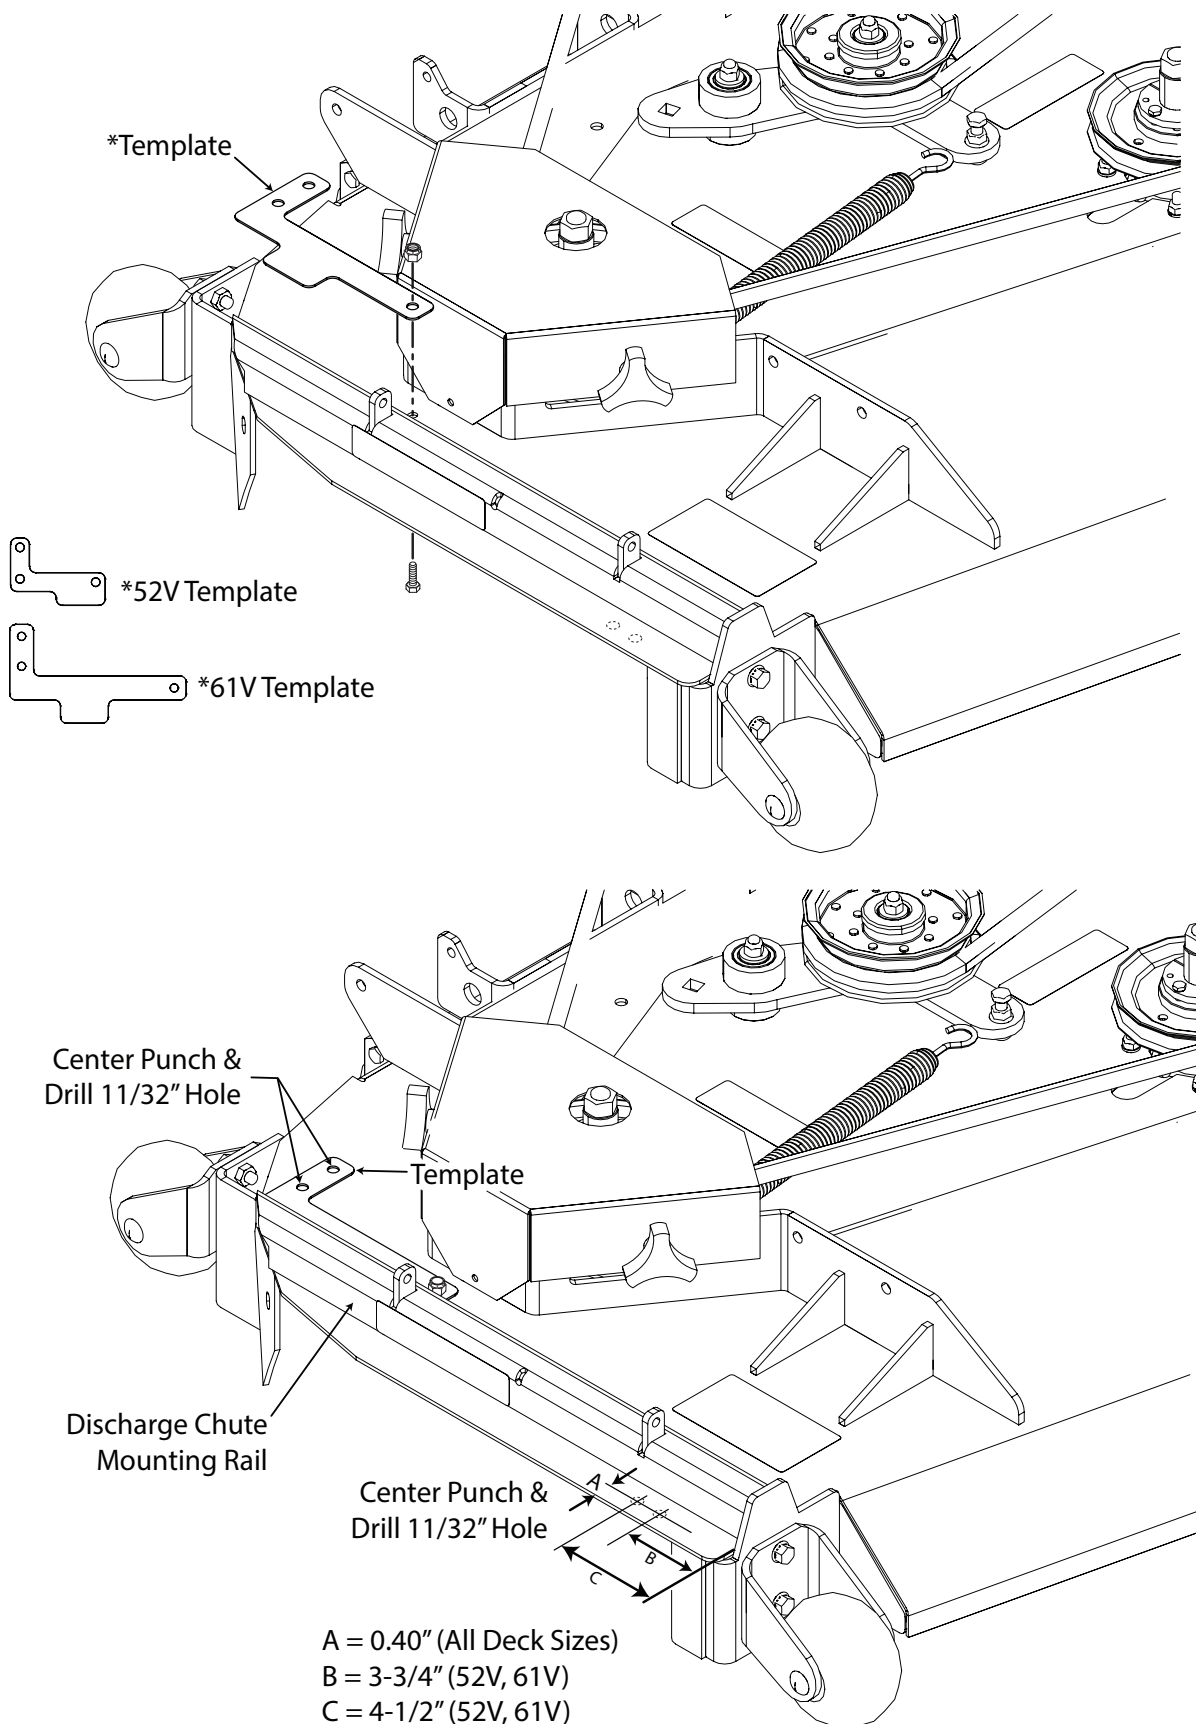

Figure 3-10. Locating and Drilling the Mounting Holes for SCZ-52V & STC/STCII-52V/61V
10. Install one (1) 5/16-18 x 3/4" bolt and one (1) 5/16-18 elastic stop nut. Do not tighten the hardware.
11. Install the template to locate the mounting holes for the lever assembly. Secure to the cutter deck using the turbo baffle mounting hardware removed in step 5. See Figure 3-10, Page 11.
12. Hold the template against the discharge chute mounting rail and tighten the hardware. See Figure 3-10, Page 11.
13. Center punch and drill the mounting holes using an 11/32" drill bit. See Figure 3-10, Page 11.
14. Carefully lay out the remaining mounting holes for the front hinge bracket in the cutter deck. See Figure 3-10, Page 11.